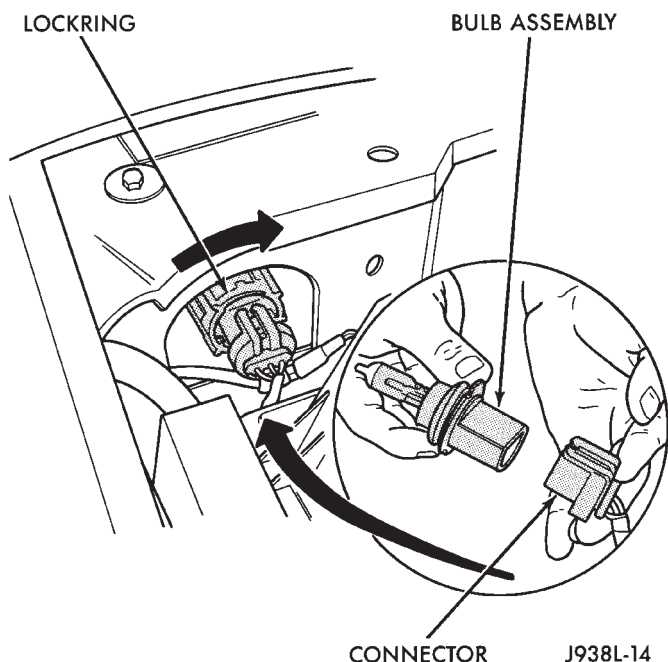

Fig. 3 Headlamp Bulb Removal
(4) Locate and disconnect the 3 wire connector behind headlamp.
(5) Rotate bulb ring counterclockwise. Remove ring and bulb from lens (Fig. 3).